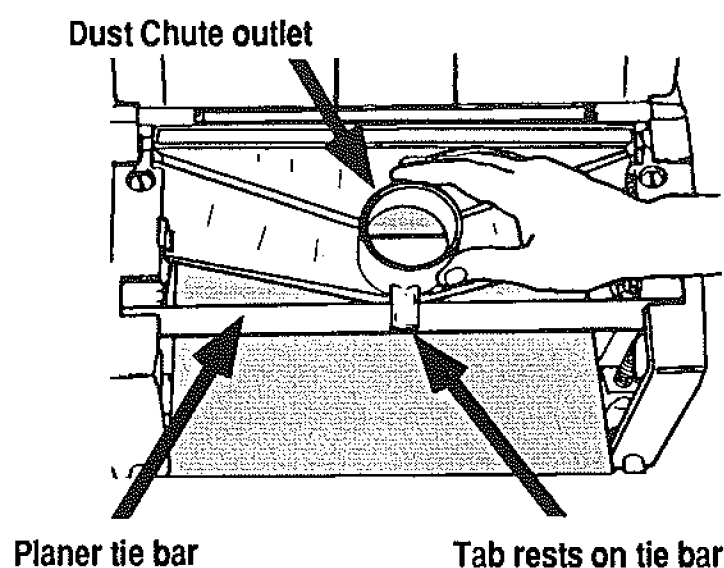

Fig. 4
5. Unlock and raise the planer's outfeed shield. Place the assembled dust chute so the tab on its outlet rests on the outfeed tie bar and its two top wing tabs rest on the planer's side castings, as illustrated in Fig. 4. The nozzle of the dust chute should be slightly angled toward the rear of the planer.